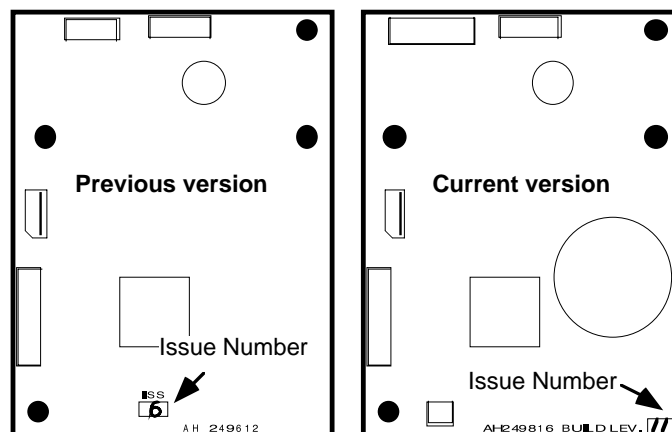

Figure 11 Annotator board build level/issue number location
The exact detail of the procedure depends on the recorder type and status level, and on the build level of the annotator board. The recorder status level is the last two or three characters of the recorder's serial number which is printed on a label which is usually to be found on the rear terminal cover. The build level of the annotator board is determined as shown in figure 11.
17. The procedure depends on the build level (issue number) - located as shown in figure 11, of the old annotator board. For build levels 11 or higher, go to instruction 18. For previous build levels go to instruction 21.